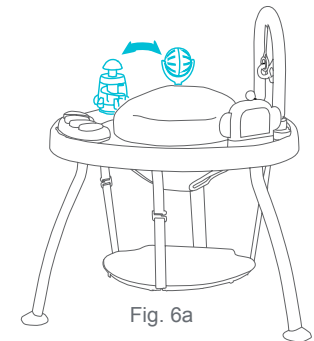

Fig. 6a
- 6 • Place toys in this order as shown. Toys must be properly attached before use (Fig. 6a).